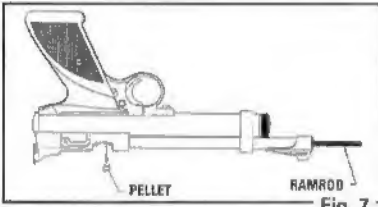

Fig. 7
- Push the jammed pellet into the pellet loading port (forward of the bolt) (Fig. 7).